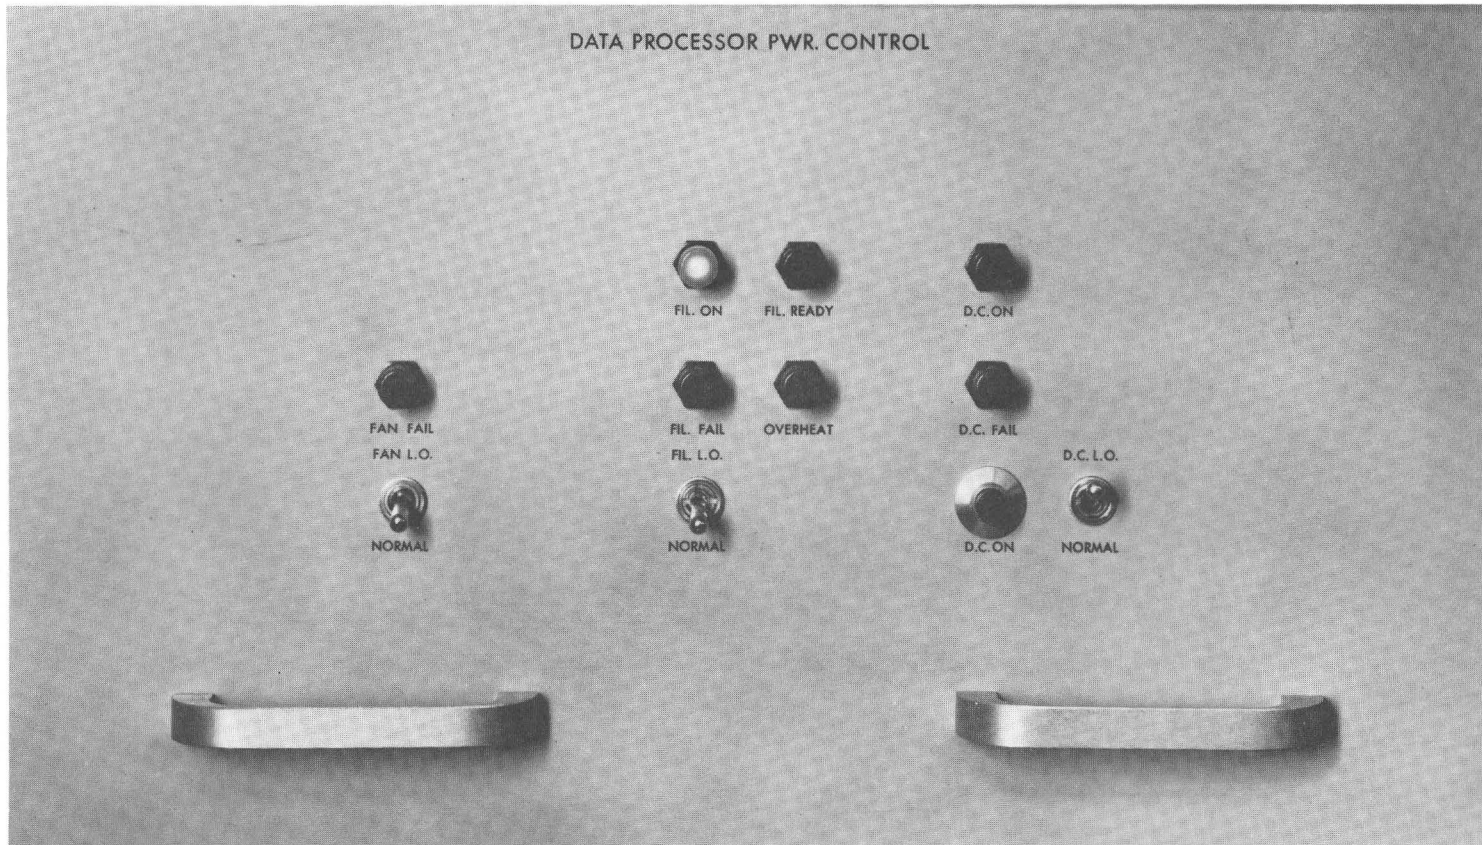

Figure 3-18. Data Processor Power Control Panel.
1. Turn on (DCLO or UP position) the D.C. Lockout toggle switches on the following control panels in the Power Control Unit. (Reference should be made to Figure 3-18 for all Power Control Panels listed below since all panels are identical)